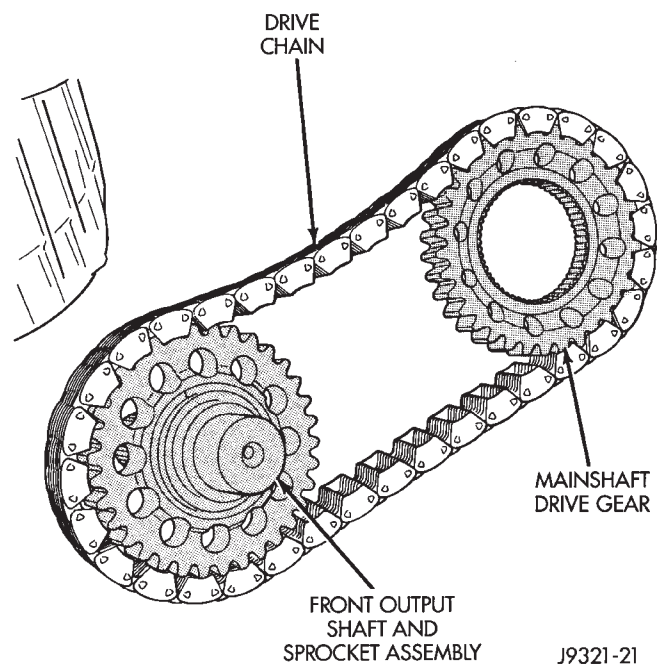

Fig. 21 Front Output Shaft, Drive Gear And Chain Removal
(21) Remove front output shaft, drive chain and drive gear as assembly (Fig. 21).